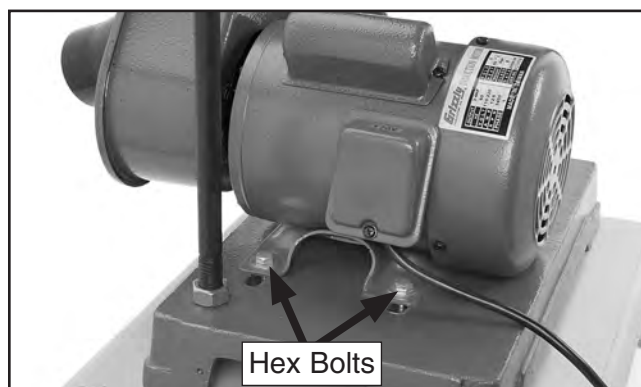

Figure 89. Rear motor mounting bolts.
6. Loosen the four hex bolts that secure the motor to the base, as shown in **Figures 89–90**, then slide the motor toward the back of the sander to reduce belt tension or slide it toward the front of the sander to increase tension.
3. Loosen the four hex bolts that secure the motor to the base, as shown in **Figures 89–90**, then slide the motor toward the back of the sander to reduce belt tension.